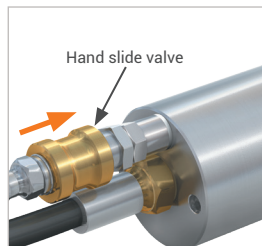

Figure 6
- ▶ Push the sliding sleeve of the hand slide valve (Pos. 6) to forwards (Figure 6). The pilot pressure is supplied. The elastic front seals (Pos. 7) or main seals (Pos. 8) are compressed, the connector tightens itself to the test piece and creates a pressure-tight connection.